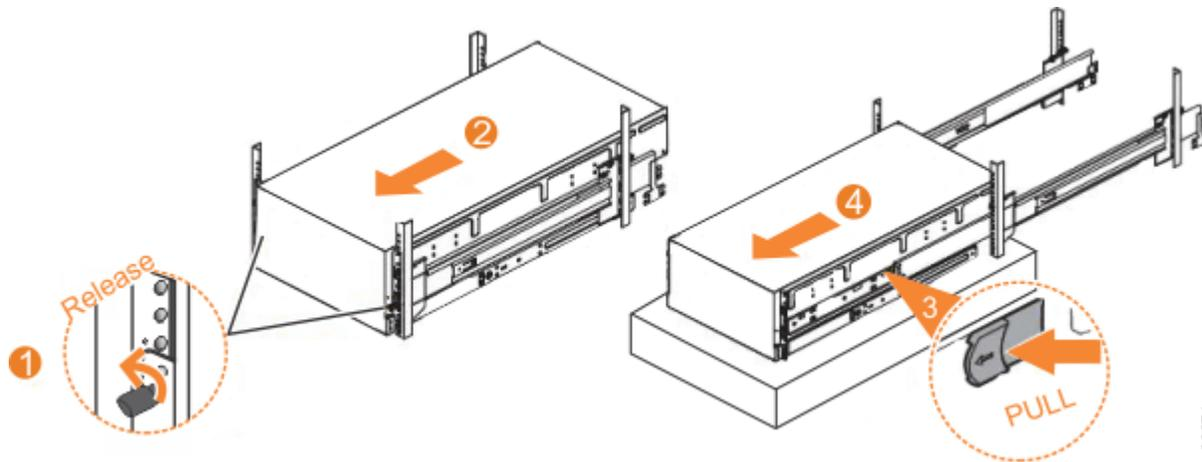

Figure 107. Removing the 2145-92F enclosure from the rack
1. Loosen the locking thumb screws (1) on the front of the enclosure, as shown in Figure 107 on page 99.
2. Carefully slide the enclosure forward out of the rack (2), as shown in Figure 107 on page 99.
3. Locate the left and right blue release tabs near the front of the enclosure. Pull both release tabs forward to unlock the drawer mechanism (3) in Figure 107 on page 99).
4. Slide the enclosure and inner rail member out of the rack (4) in Figure 107 on page 99).